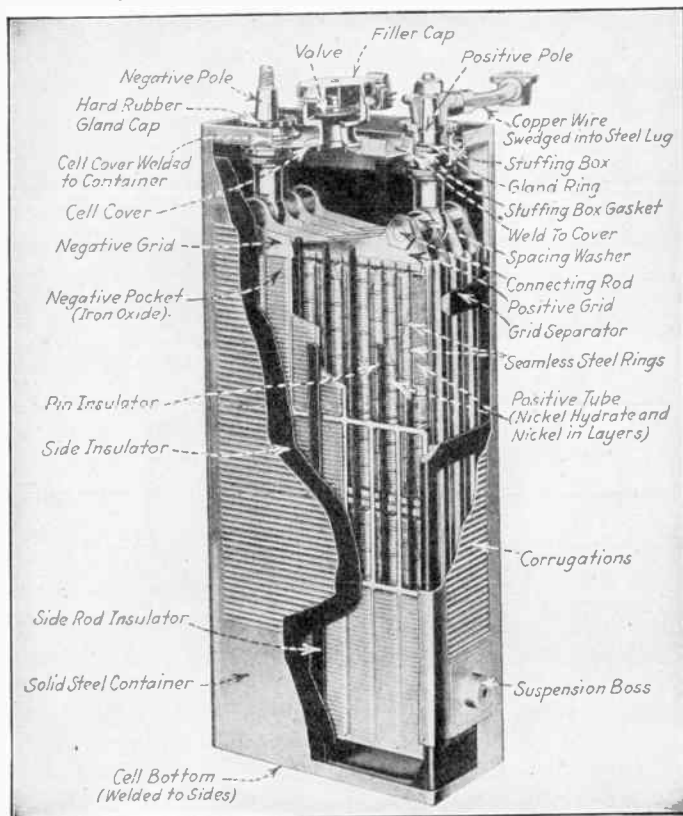

FIG. 60.—Cross-sectional view of the Edison cell.
*Ans.* The following brief explanation of the Edison cell may be better understood by referring to Fig. 60: